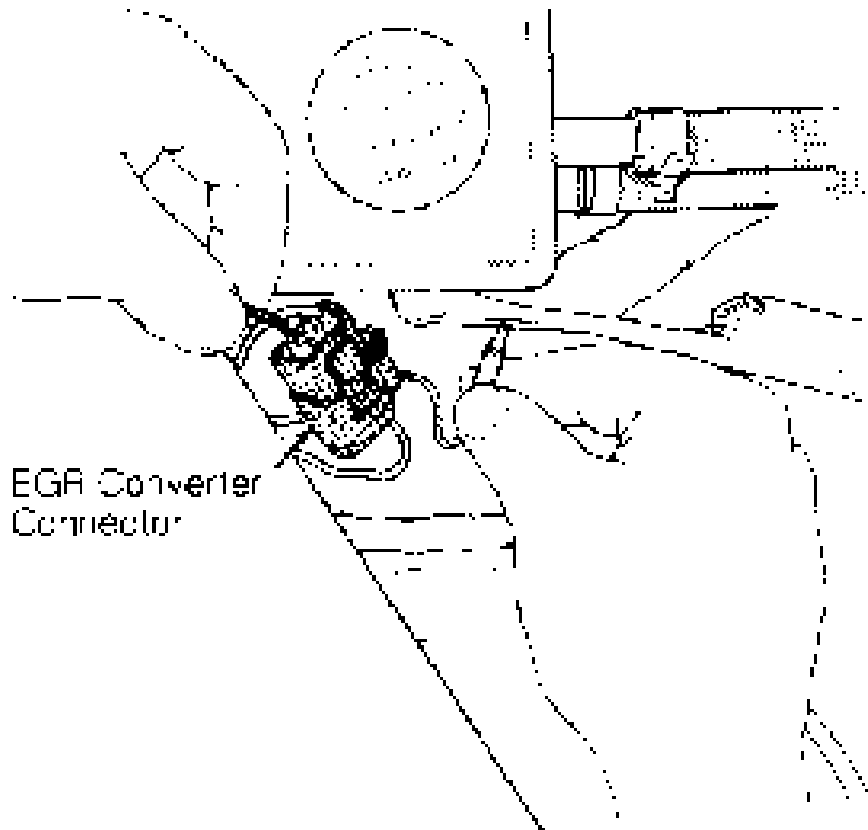

Fig. 4: Locating EGR Converter Connector
3) Disconnect EGR converter connector, located next to power steering fluid reservoir. See Fig. 4. Remove wire directly opposite Black/White wire between pin No. 1 and control unit. Reconnect connector.